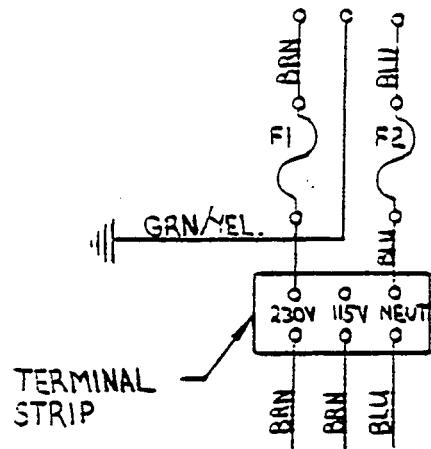

Figure 9
1. Rewire terminal strip as shown in figure 9.